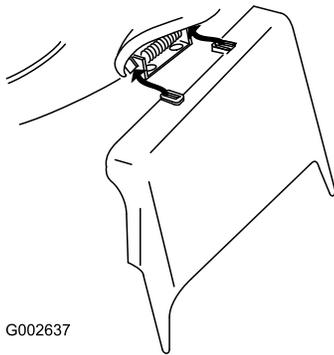

Figure 35
- Install the side discharge chute and close the door onto the chute (Figure 35).